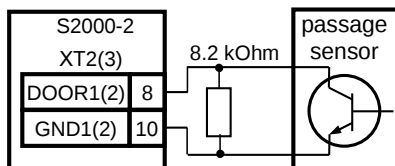
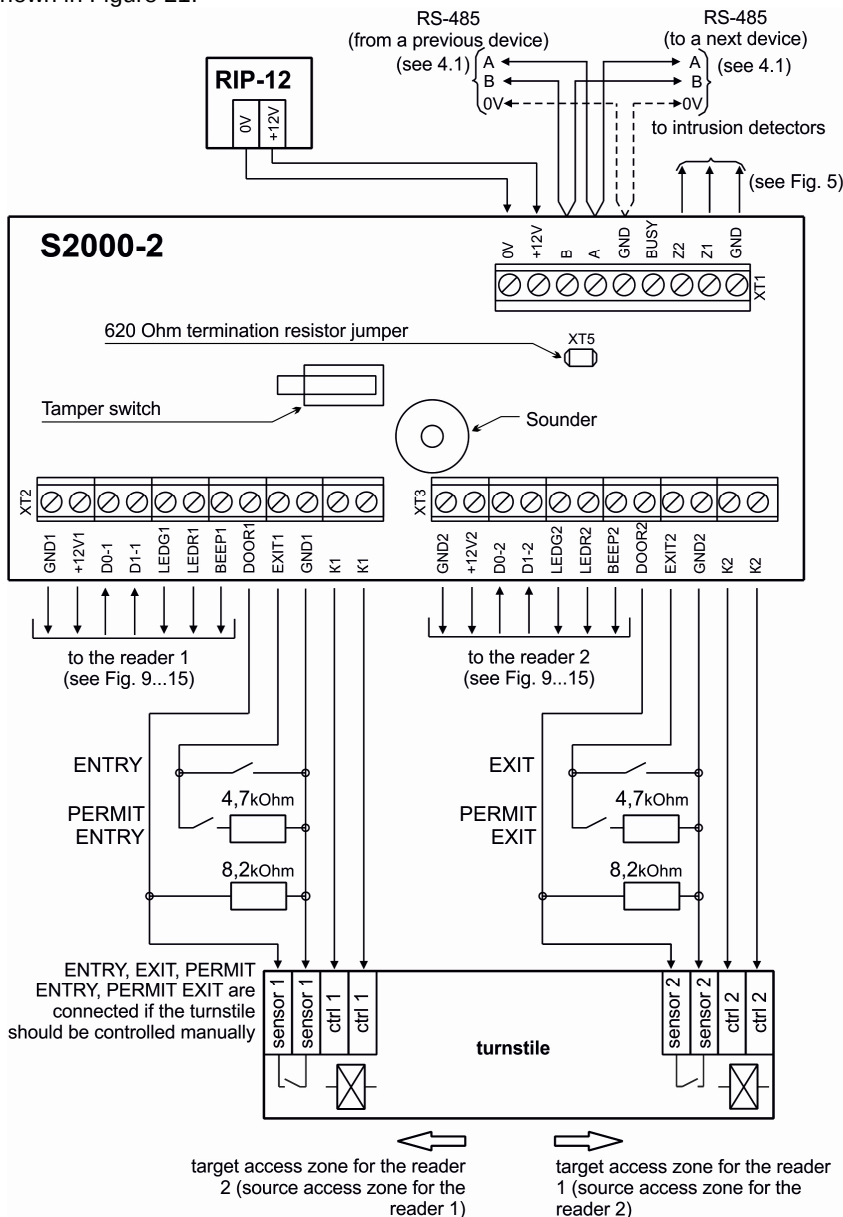

Figure 8. The Schematics for Connecting Passage Sensors (Door Sensors)
Figure 19. Wiring the S2000-2 for the Turnstile Operation Mode
4.5.1 Detectors with normally closed or normally open contact outputs or open collector outputs can be connected to the controller. The schematics for connecting passage sensors (door position sensors) are shown in Figure 8.
4.9.1 Connect the control circuits of the turnstile and the passage sensors (rotation sensors) as shown in Figure 19. Figure 8 shows how to connect passage sensors with various output types.